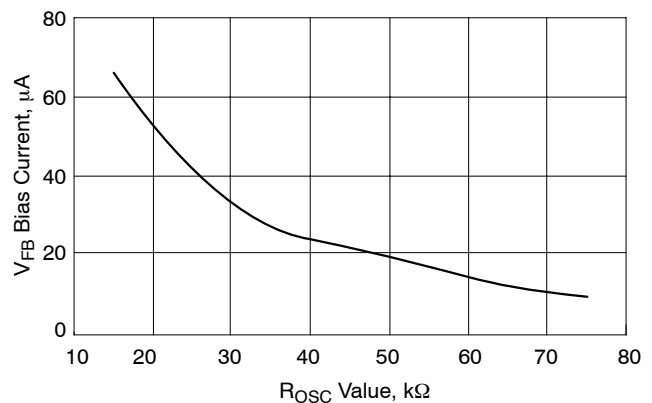

Figure 4. V_{FB} Bias Current vs. R_{OSC} Value
- The V_{FB} Bias Current changes with the value of R_{OSC} per Figure 4.
To set the no-load positioning a resistor (R9) is placed between the output voltage and V_{FB} pin. The V_{FB} bias current will develop a voltage across the resistor to decrease the output voltage. The V_{FB} bias current is dependent on the value of R_{OSC} . See Figure 4 on the datasheet.